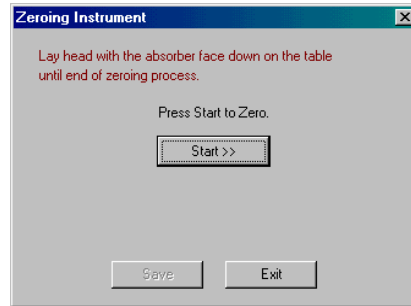

Figure 4-6 Zeroing Instrument Dialog Box
2. From the head control screen, click the right mouse button and select **Zeroing** from the pop-up menu, OR open the Functions menu and select **Zeroing**. The **Zeroing Instrument** dialog box appears (*figure 4-6* above)